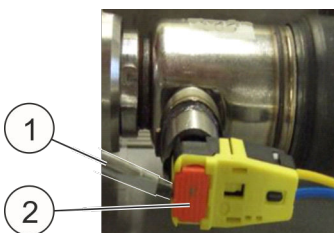

Fig. 91: Ignition plug
11. ▶ Push out the red arrest (Fig. 91/2) at the ignition plug with a small screwdriver (Fig. 91/1).